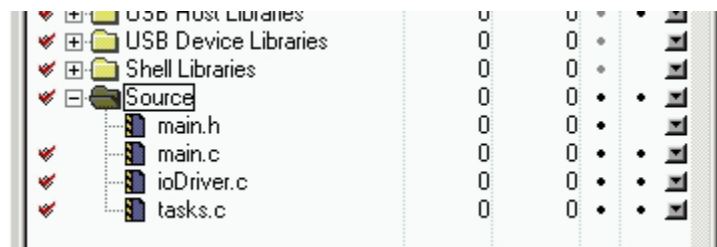

Figure 4. Adding tasks.c to Project Directory Structure
3. In the project directory structure, search for the 'Source' folder. Right click and select "Add Files" and add the 'tasks.c.' When prompted with a pop up for "Add files to targets," use the default of all targets and click OK. After adding the file, the structure directory must look like Figure 4.